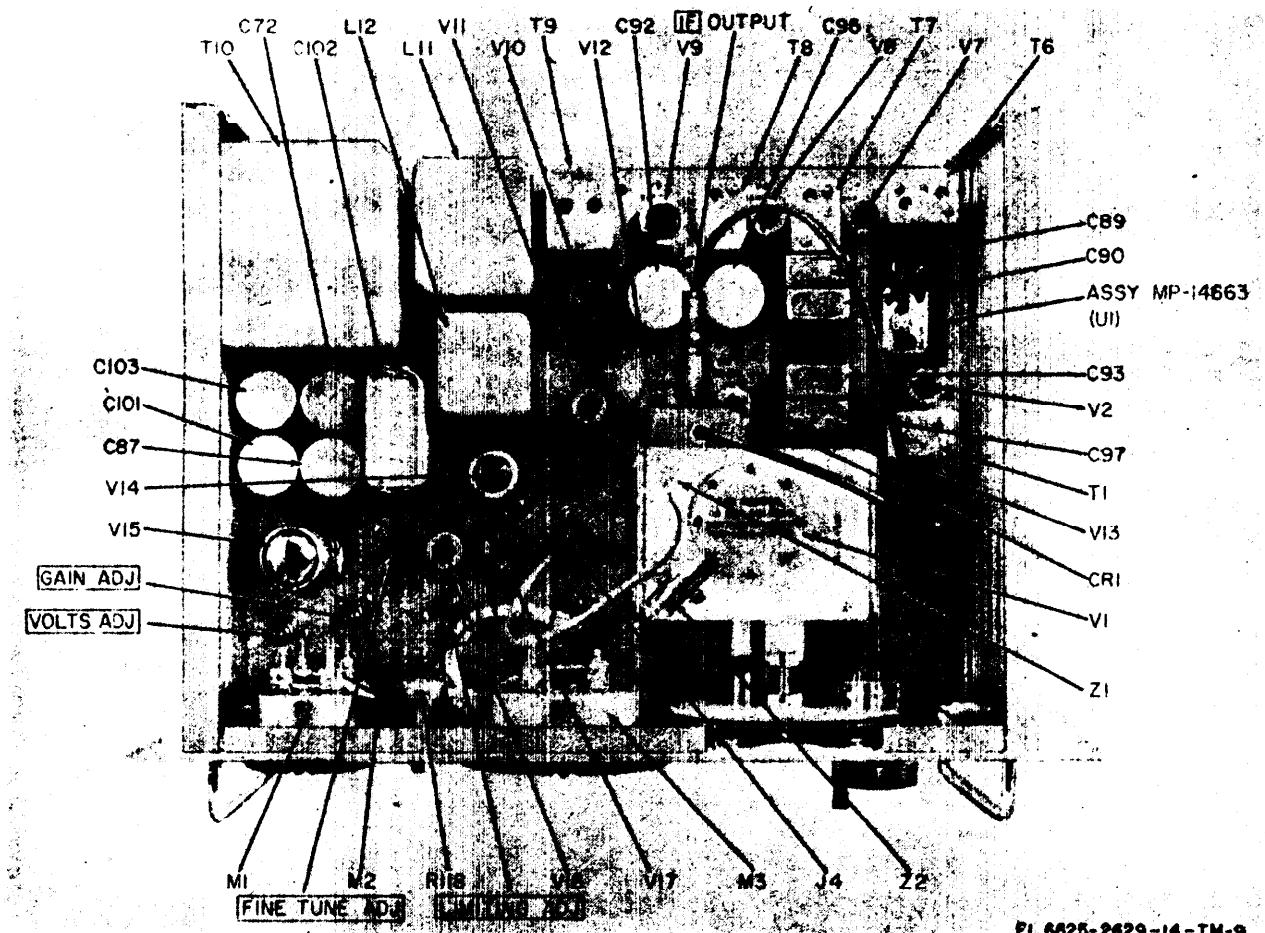
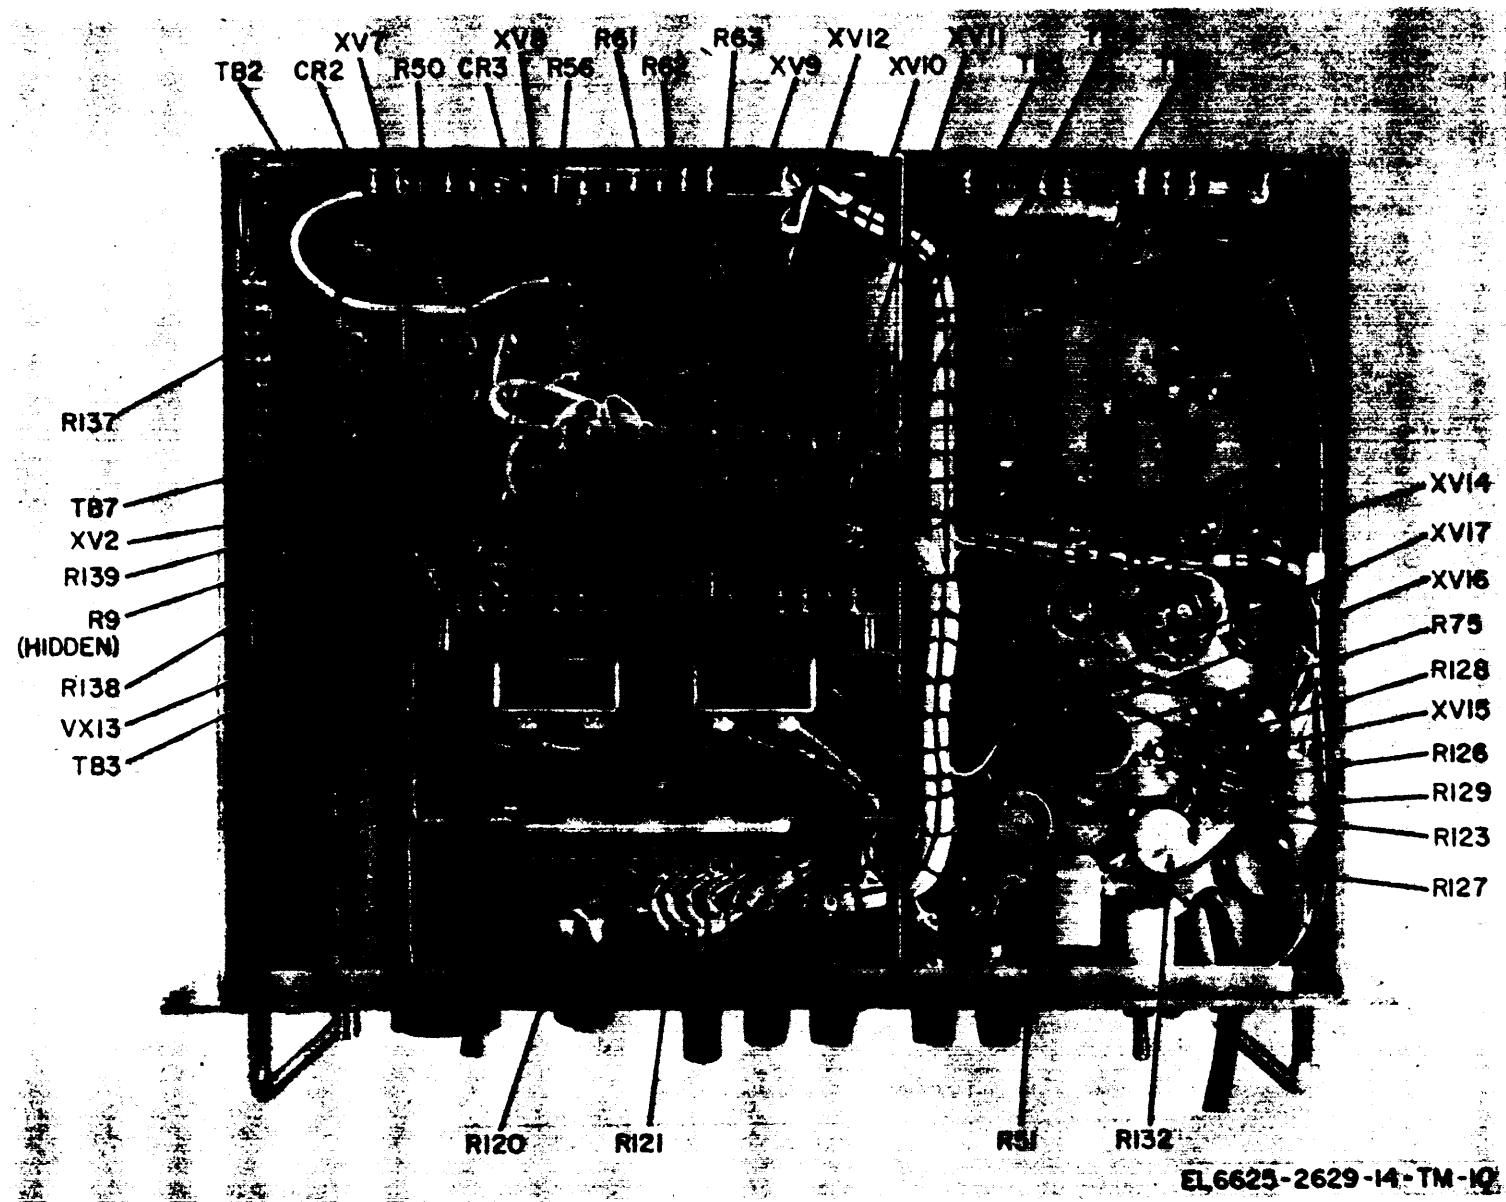
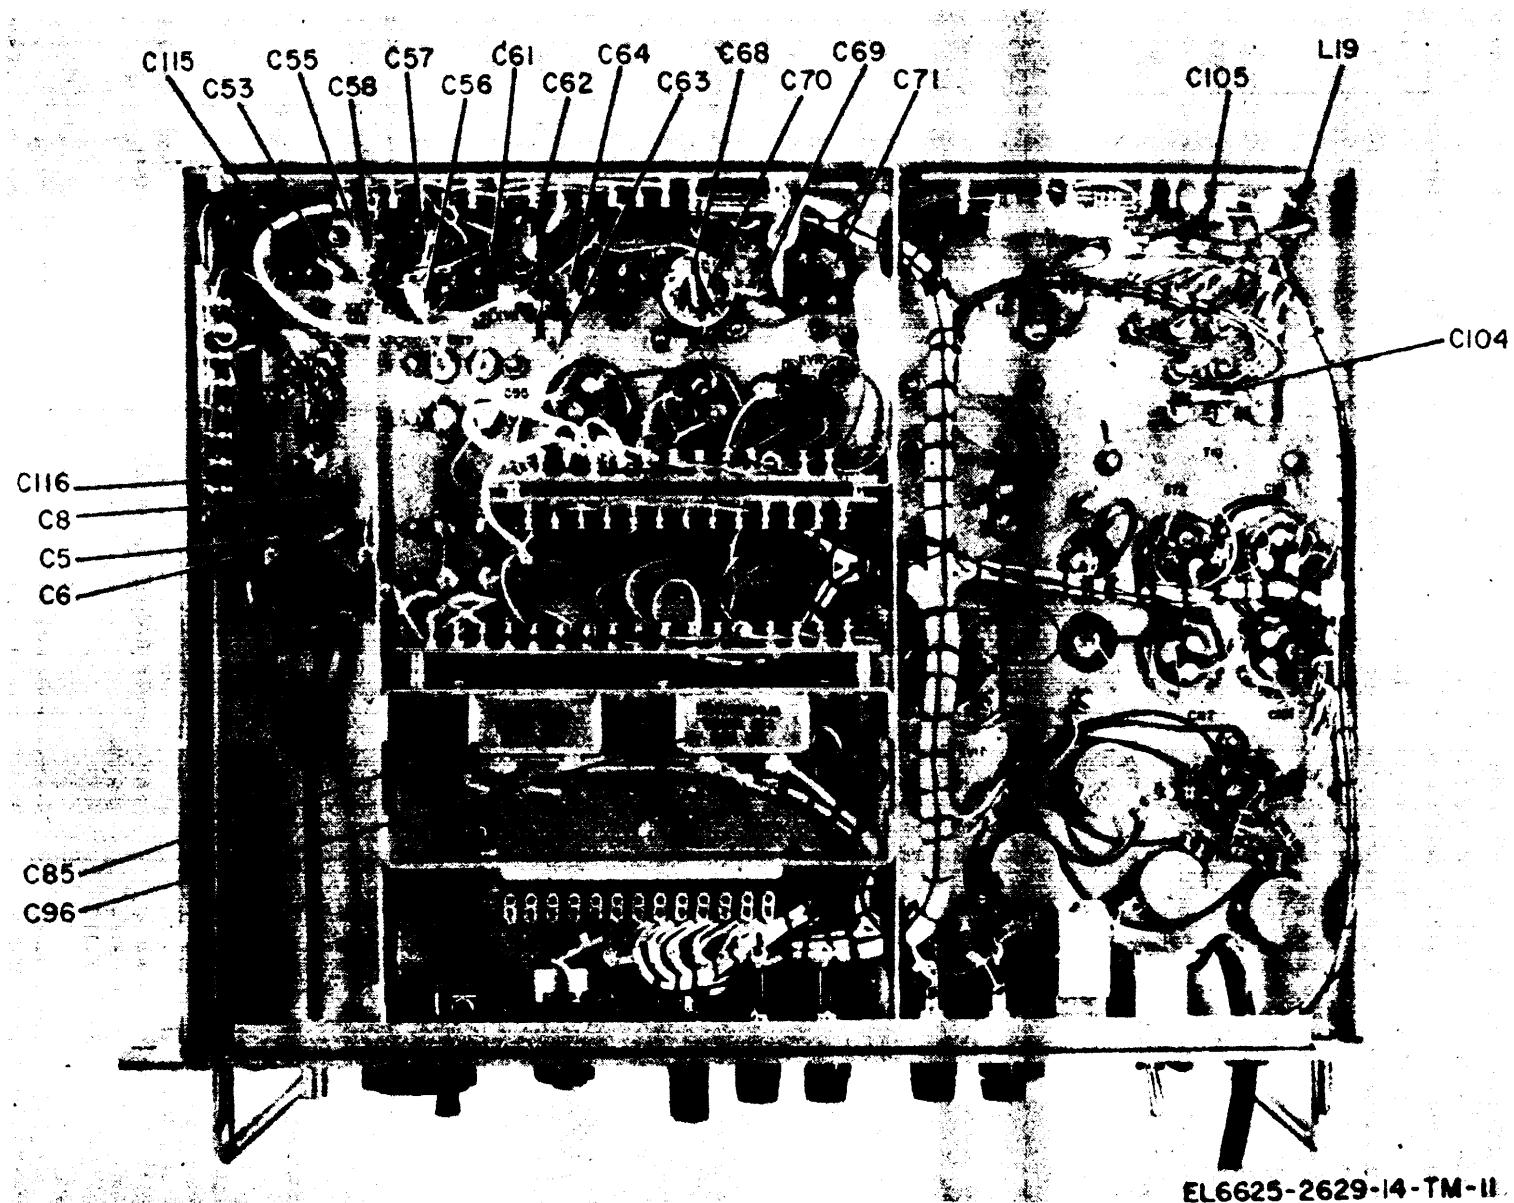

Figure 7-1. Modulation meter chassis, parts location, top view.
Figure 7-2. Modulation meter chassis, resistor location, bottom view.
Figure 7-3. Modulation meter chassis, inductor and capacitor location, bottom view.
Parts locations are shown on figures 7-1, 7-2, and 7-3. A schematic diagram for the overall modulation meter is contained on figure FO-2. The overall wiring diagram is figure FO-3.
| Between ground and pin 9 of XV13. | Resistance should be approximately 36 ohms. | If resistance is zero, check for short at XV13 (fig. 7-2) or shorted lead from J4 (fig. 7-1) or at Z1 on the oscillator. If the resistance is infinite, check for open resistor R131 on TB6 (fig. 7-2). If a short or finite resistance is read, check the wiring to and at sockets XV15 and XV16 (fig. 7-2). |
| Between ground and pin 4 of XV16. | Infinite resistance. | If a short or finite resistance is read, check the wiring to and at sockets XV10, XV11, and XV12 (fig. 7-2). |
| Between ground and pin 9 of XV10. | Infinite resistance. | If resistance is zero, check for shorted filter capacitor C101A or C102. If resistance is approximately 110 ohms, check for short in C103. If resistance is approximately 165 ohms, check for short in C101 B or bypass capacitor C50. If any other resistance below 250K is observed, check all the bypass capacitors (fig. 7-3 and FO-2). |
| Between ground and pin 6 of XV15. | Resistance should be approximately 10K; reading will be determined by setting of R130. | If resistance is less than 10K, check all screen bypass capacitors (fig. 7-3 and FO-2). If resistance is higher than 10K, check R130 for open (fig. 7-2). |
- (1) Disconnected the rf cable at the if input mixer connection (fig. 7-1).
- (2) Connect the am generator output to this cable. (Be sure that the modulation selector switch is in. the OFF position.)
- (3) Tune the am generator to 12 MHz and increase the output until the LIMITING meter indicates in the black area.
- (4) Check the indication on the CARRIER SHIFT meter. It should read nearly zero with TUNE-FINE TUNE switch in FINE TUNE position. If it does not read zero, tune the am generator until it does.
- (5) If LIMITING and CARRIER SHIFT meter readings are indicated, the oscillator-probable is faulty.
- (6) If the LIMITING meter reading cannot be indicated, the trouble is probably in the if amplifiers. If the if amplifiers are suspected of being faulty, use the test method given in c below.